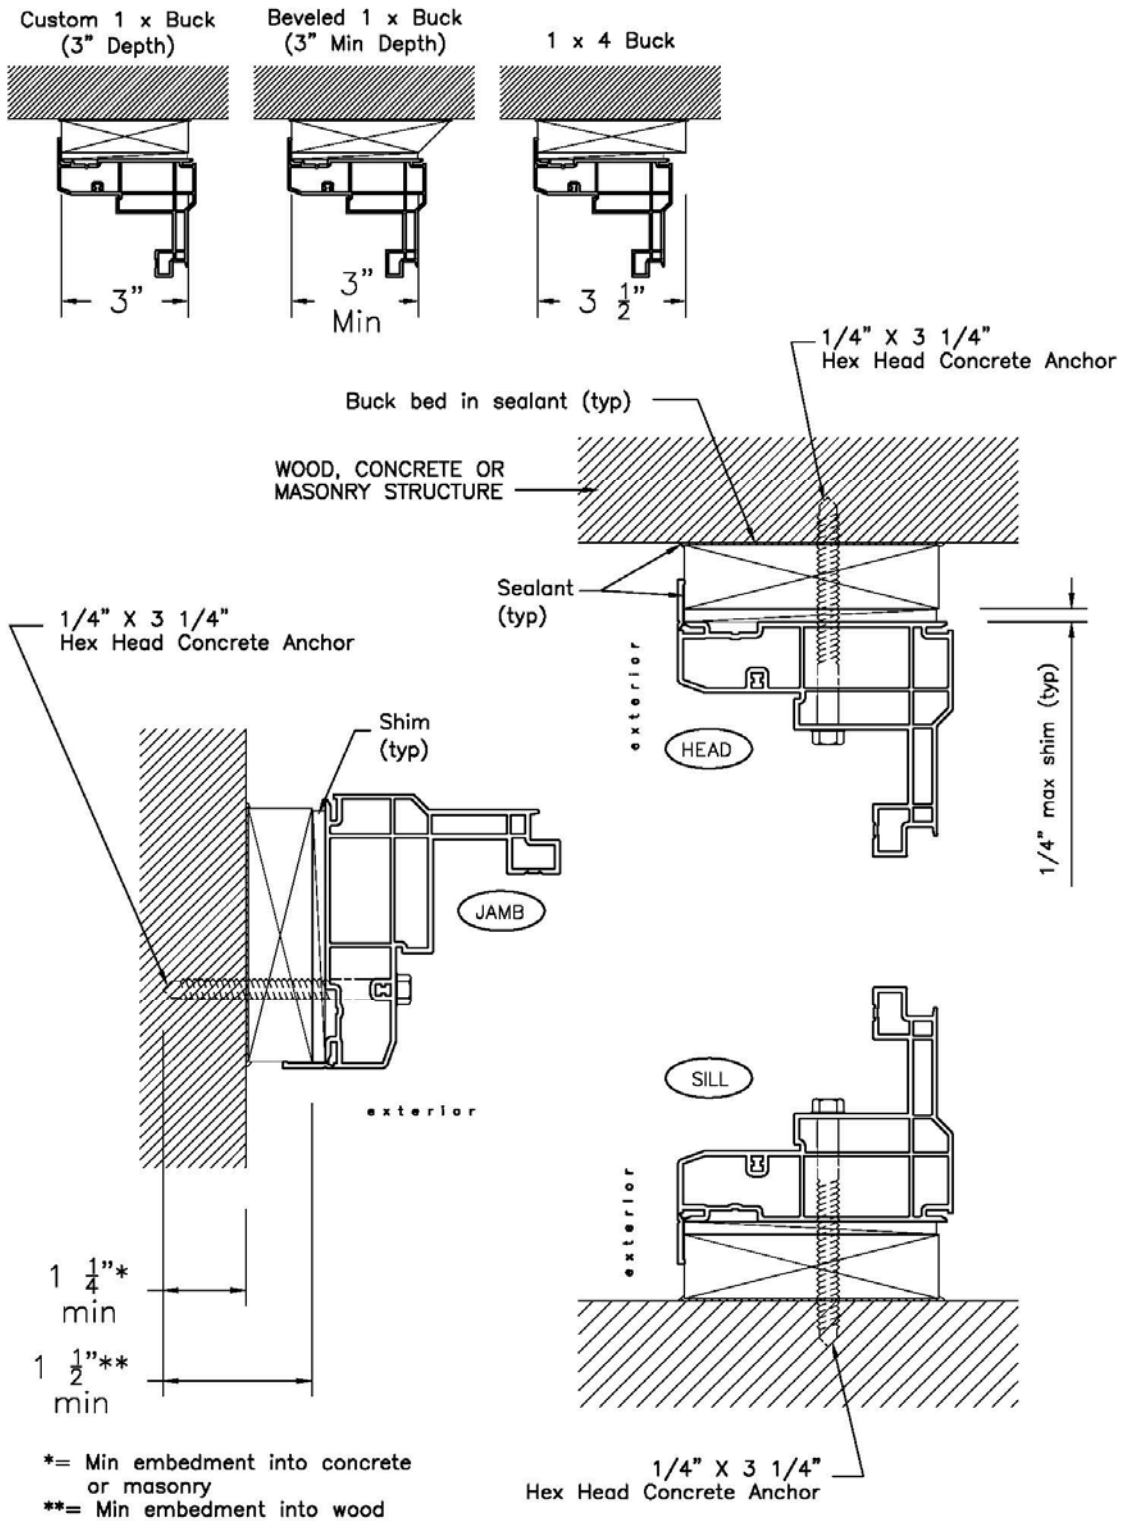

Figure 4: Installation type "A" using 1 x bucks
2. If wood bucks are being used, make sure they are of the correct size and type for the installation method being used (see figures 4 and 5 - Installations Types A and B). Verify that wood bucks are plumb, level and square. Note that Installation Type C (Equal/Flush Leg) does not require a wood buck.